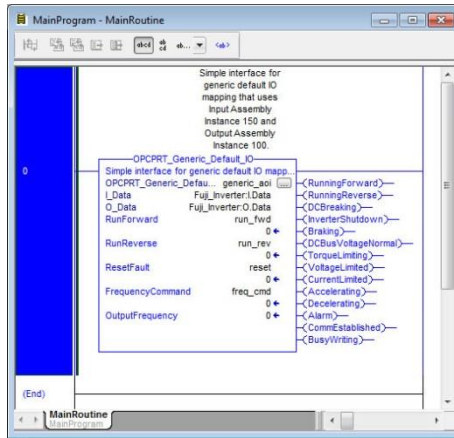

Figure 43: Configure Generic Default AOI
- 10) Edit the add-on instruction according to Figure 43.